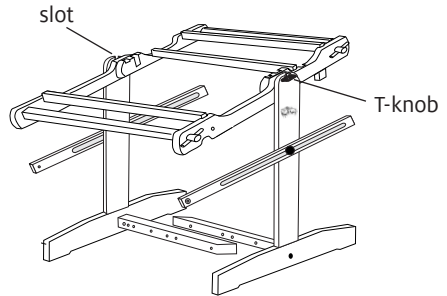

FIGURE 5: PLACE LOOM ON THE STAND
- Slide the T-knobs into the slots in the tops of the uprights (Figure 5).